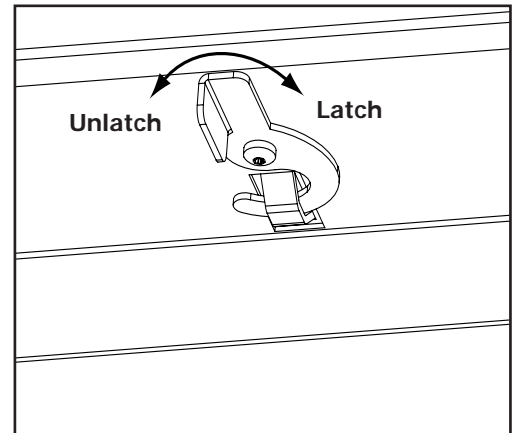
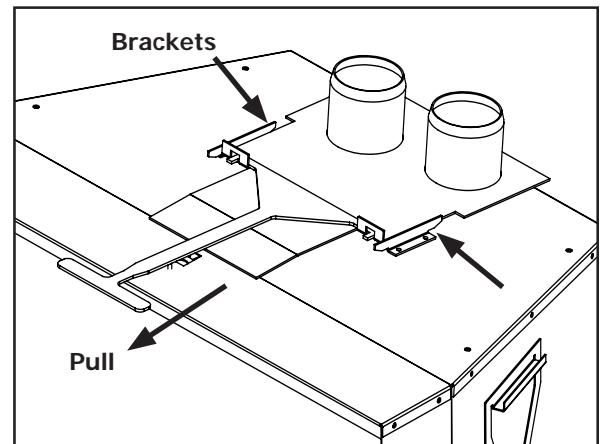

Figure 32: Vent Collar Plate Latch.
Figure 33: Vent Collar Plate Tool.
10. If the fireplace opening is lower than 24" (610 mm), remove the vent collar plate from the top of the insert by unlatching the hook located on the center top of the stove above the door opening (see Figure 32). Slide the collar plate backwards. Properly secure the vent collar plate to the flexible vent pipe liner(s) previously installed in the chimney. Be careful not to over-stretch the liner(s).
11. Apply a bead of stove cement sealant to the top section of the Ø3" (76mm) exhaust vent collar plate. Slide the Ø3" (76mm) flex vent over the flue collar and secure with three (3) sheet metal screws evenly spaced.
12. Place a bead of high temperature silicone on the intake collar of the fireplace, slide the Ø3" (76mm) flex intake liner over the collar, secure the flex liner with three (3) sheet metal screws evenly spaced.
14. As you push the unit into its final position in the fireplace, if the vent collar plate was removed, reinstall it on the stove by pulling it into the brackets on top using the supplied tool and latch it back in place (shown in Figure 33).